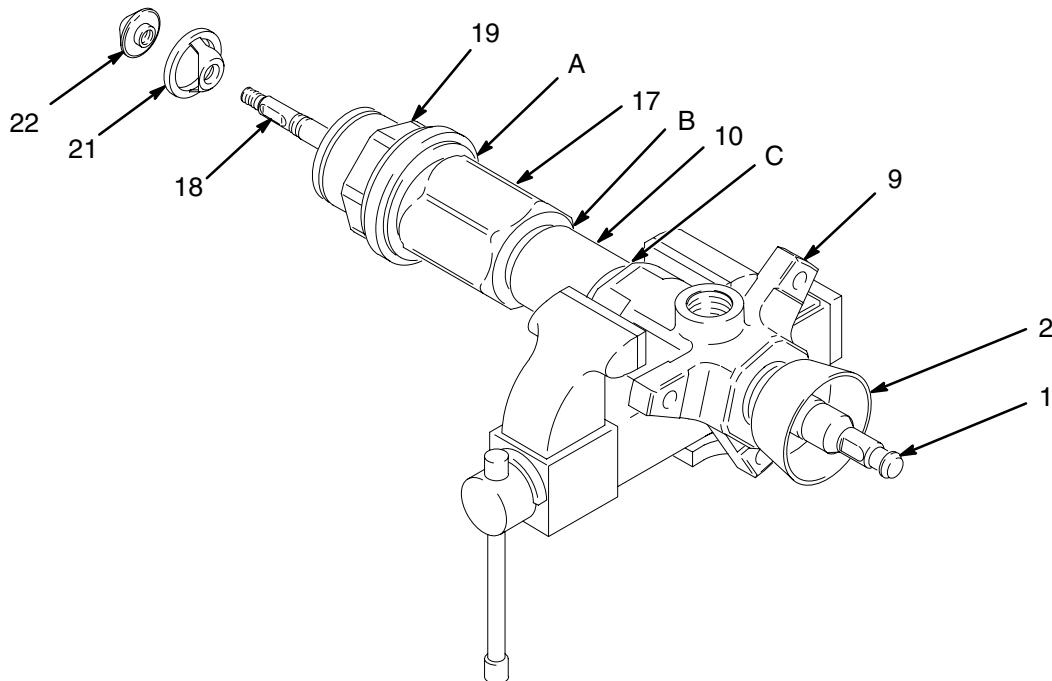

Fig. 7
1. Remove the displacement pump from the air motor as explained on page 14. Place the pump in a vise, with the outlet housing (9) positioned as shown in Fig. 7.
2. Hold the flats of the priming piston rod (18) with an adjustable wrench, and use a second wrench to unscrew the priming piston seat (22) from the rod. Slide the priming piston (21) off the rod. Inspect the inner and outer surfaces of the piston (21) for scoring, wear, or other damage.
3. Loosen the packing nut (2) using the wrench (109) supplied.
4. Using a pipe wrench on the hex of the intake cylinder (19), unscrew it from the intake valve housing (17). The pump may separate at joints A, B, or C. See Fig. 7.